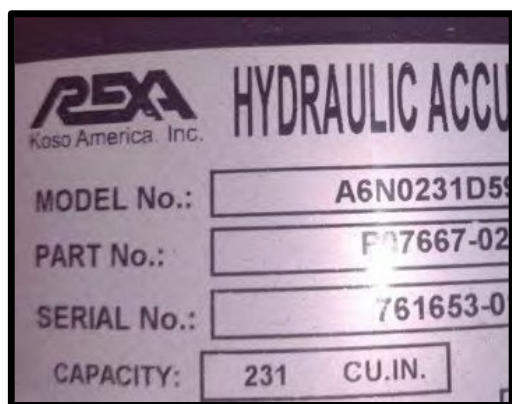

Figure 7: Accumulator Bottle Oil Capacity Tag
1. Determine accumulator bottle oil capacity by tag. See Figure 7 and the table below for details. Use the Accumulator Capacity table to determine nitrogen volume value.